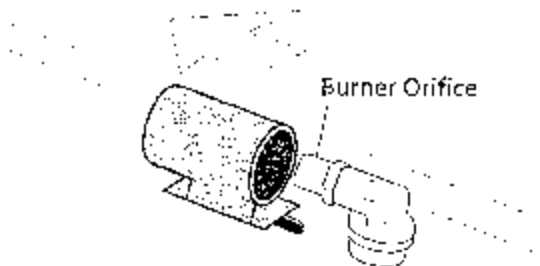

Figure 31. Move air shutter back to access the burner orifice.
- Slide the Air Shutter back out of the way to expose the orifice. See fig. 31. Using a 1/2" open end wrench or deep well socket, remove the burner orifice and replace with the appropriate orifice, supplied in the kit.